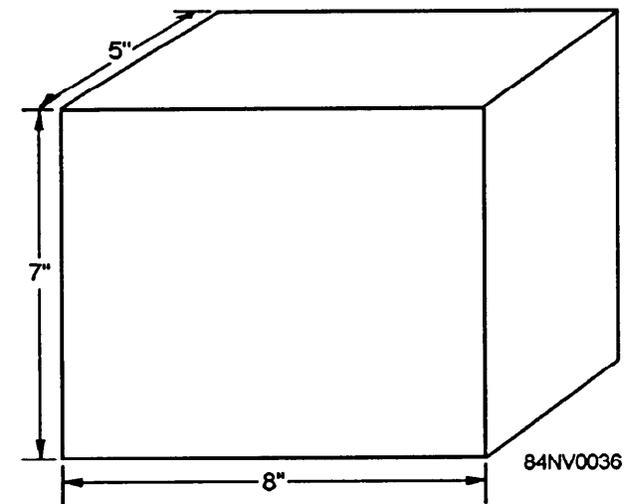

Figure 14-36.—Three-dimensional view.
To find the volume (V) of the cube shown in figure 14-36, you must multiply length (L) times width (W) times height (H), or  $V = LWH$ . Since  $L = 8$  inches,  $W = 5$  inches, and  $H = 7$  inches,  $V = 8 \times 5 \times 7 = 280$  cubic inches.